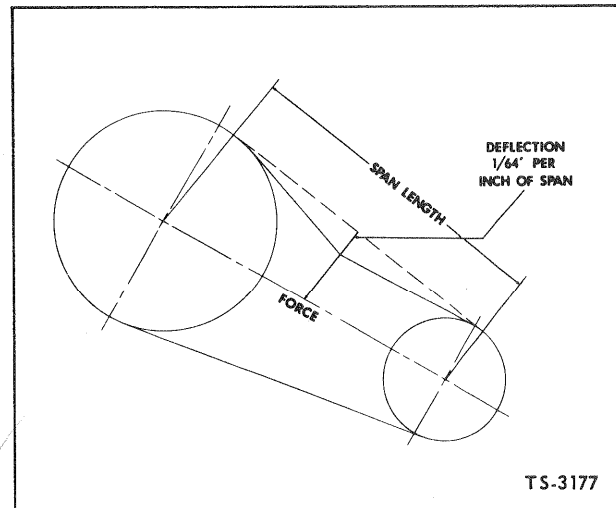

Fig. 8 Check Belt Tension
2. At the center of the span, apply a force with a spring scale (at right angles to the span) large enough to deflect the belt 1/64 of an inch per inch of span. Refer to Fig. 8.